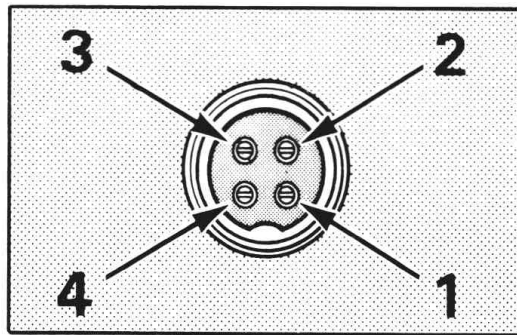

Fig. 3. Microphone plug pin numbers viewed from rear of pin receptacle.
- The wires must now be soldered to the pins as indicated in the above wiring tables. If a vise or clamping tool is available it should be used to hold the pin receptacle body during the soldering operation, so that both hands are free to perform the soldering. If a vise or clamping tool is not available, the pin receptacle body can be held in a stationary position by inserting it into the microphone jack of the front panel. The numbers of the pins of the microphone plug are shown in Fig. 3, as viewed from the back of the plug. Before soldering the wire to the pins, pre-tin the wire receptacle of each pin of the plug.